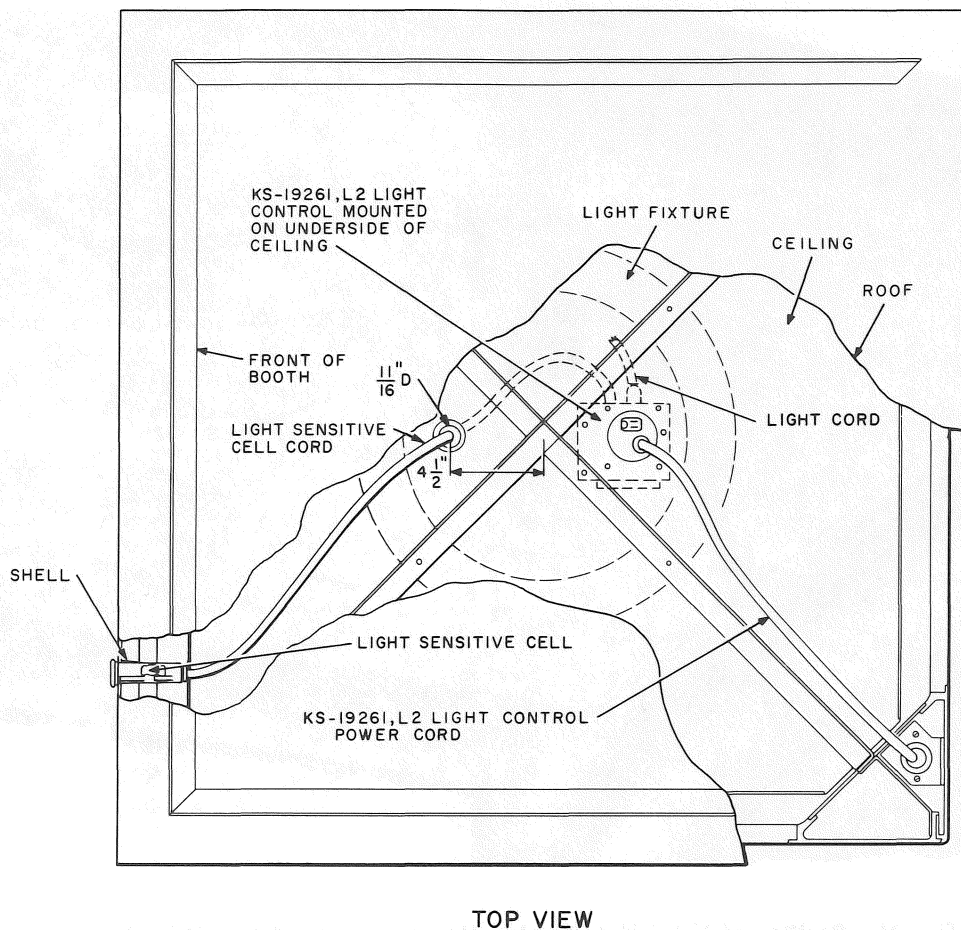

Fig. 14—Ceiling Layout of KS-14611 Booth (Top View)
- (g) Drill an 11/16-inch diameter hole down through ceiling 4-1/2 inches toward front of booth from center of cross braces (Fig. 14).